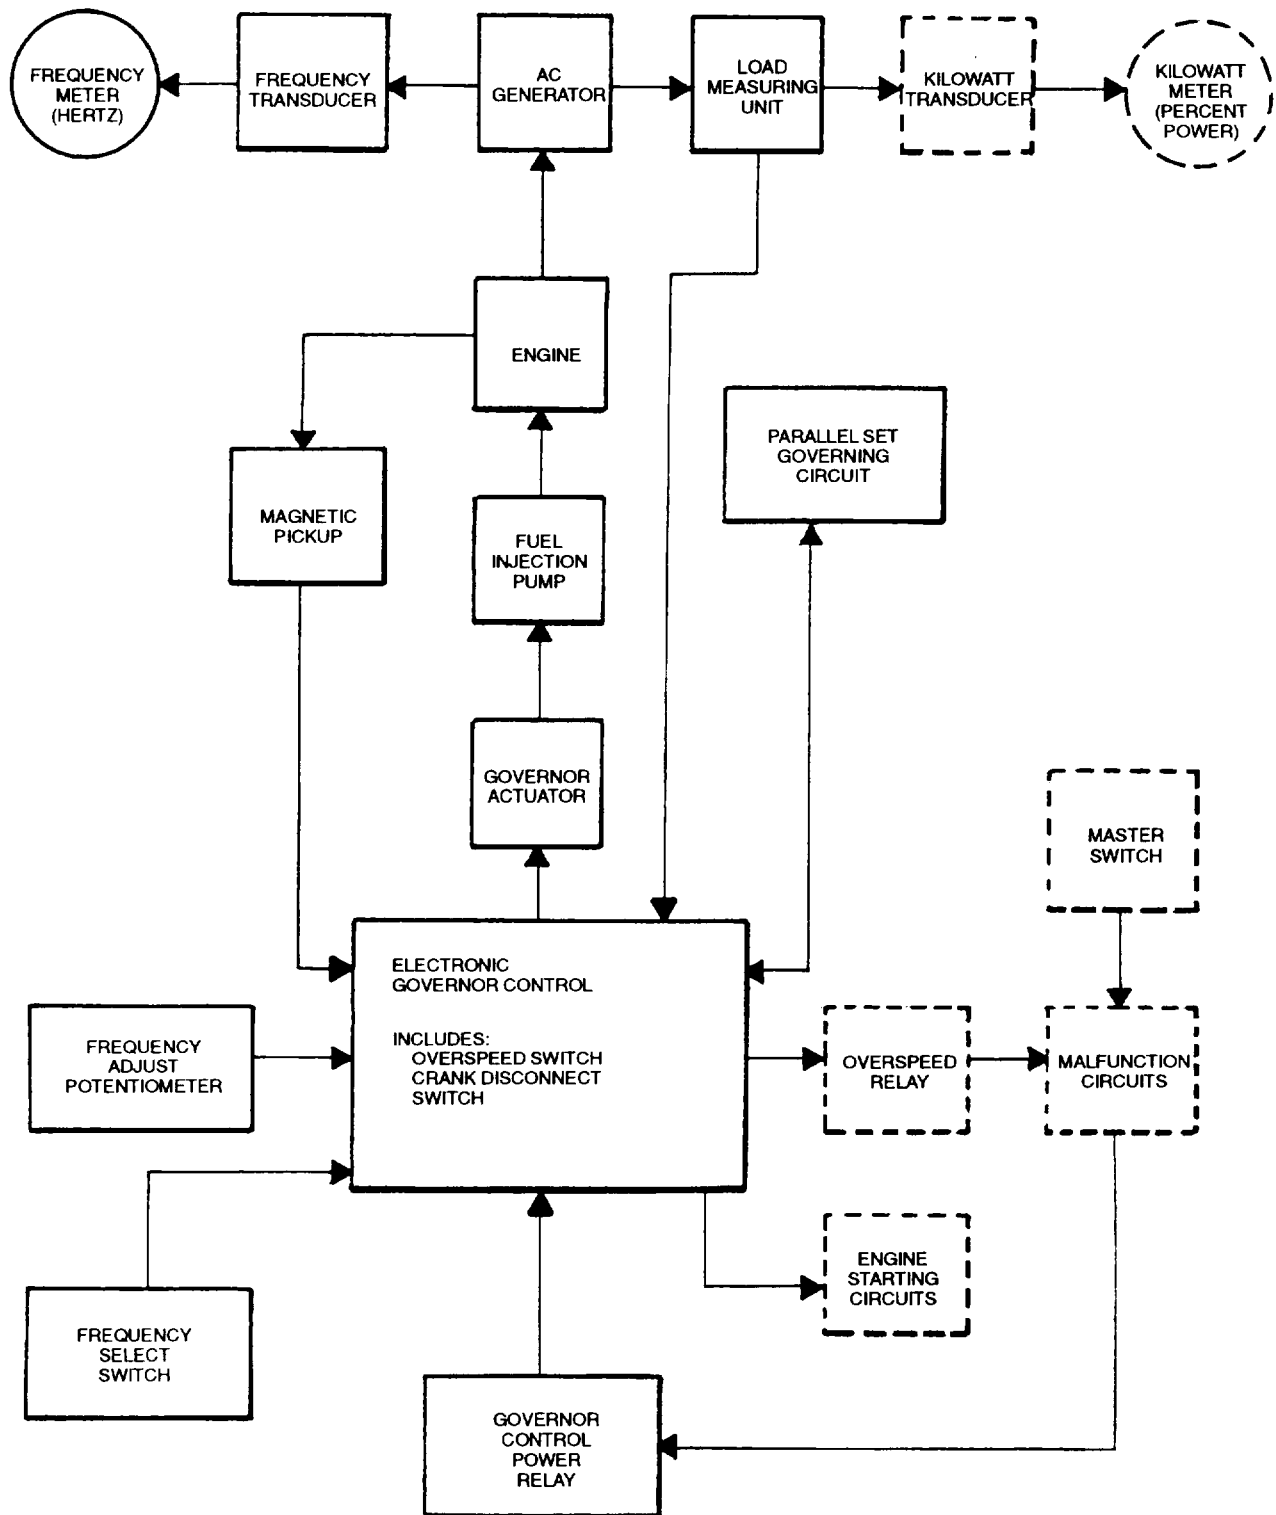

FIGURE 1-10. Governor Control System
1.12.8.3 Operation. Placing the MASTER SWITCH in the PRIME& RUN or PRIME & RUN AUX FUEL positions keeps the electronic governor control (FIGURE 1-10) energized, and fuel will be supplied to the fuel injection pump as long as no fault condition exists. During operation, the operator should periodically check the set's instruments to ensure they are reading in the normal operating ranges. The VOLTAGE and FREQUENCY potentiometers are adjusted as required to maintain desired frequency and voltage output.